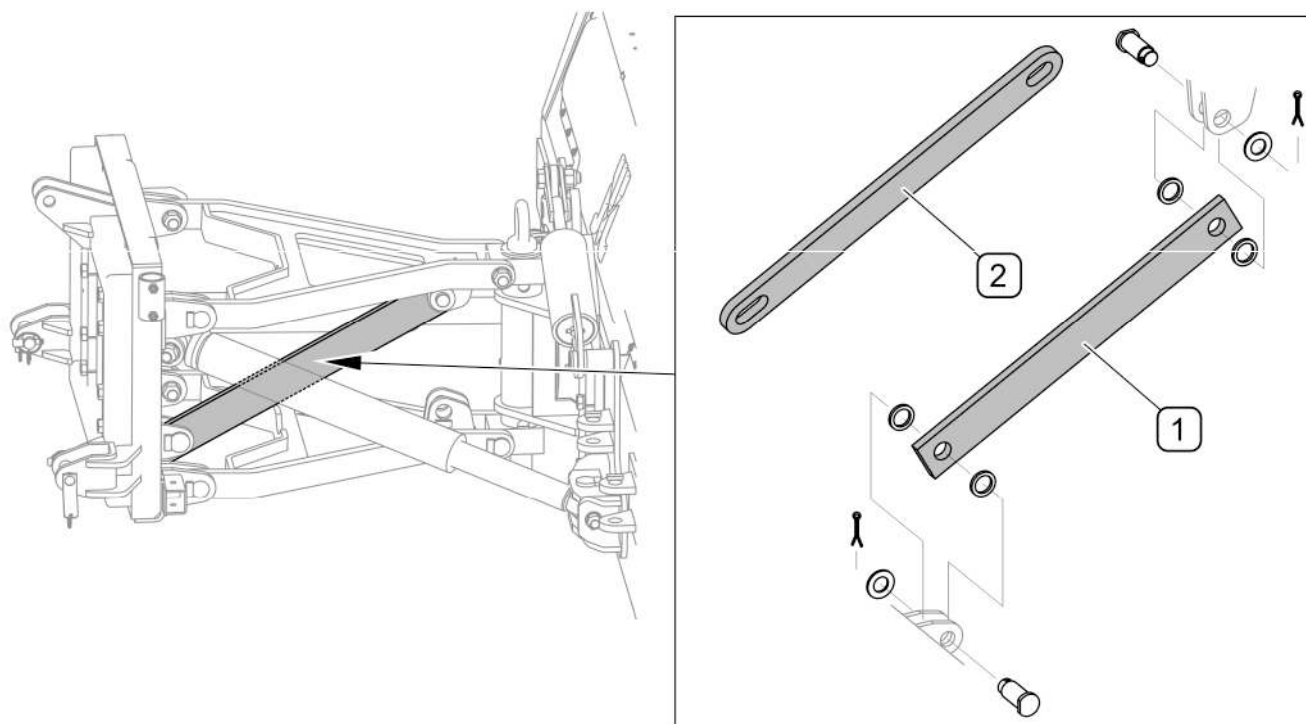

FIG. 4.1 Rising interlock
Use rising (1) interlock (FIG. 4.1) if the scraper – blade is hitched to a tractor equipped with three-point linkage with float position. The scraper – blade that is hitched to a tractor or a loader with linkage system without float position should be equipped with float rising interlock (2).